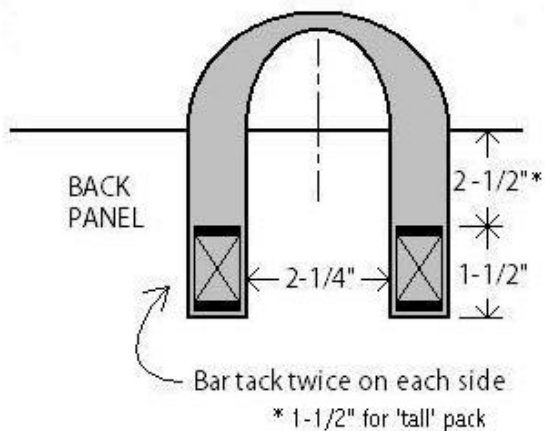

Figure 8. Haul loop.
- 4.1.1 Attach 10" piece of 1" webbing to the right side of the back, centered along the top. Sew as shown in *Figure 8*.